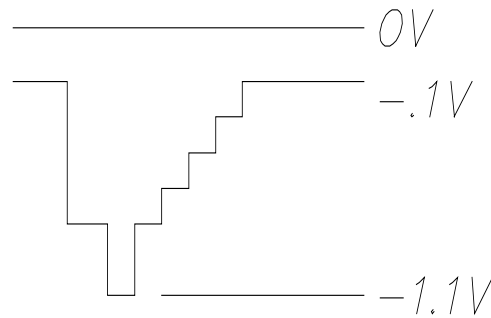

Figure 4-1. Waveform
6. Monitor TP2 with an oscilloscope. Adjust the pot R41, manual offset, for a blanking level of -0.8 VDC. The waveform shown in Figure 4-1 should be observed. Move the jumper W2 on J4 to the clamp enable position. Adjust the pot R152, depth of modulation, for a blanking level of -0.8 VDC.